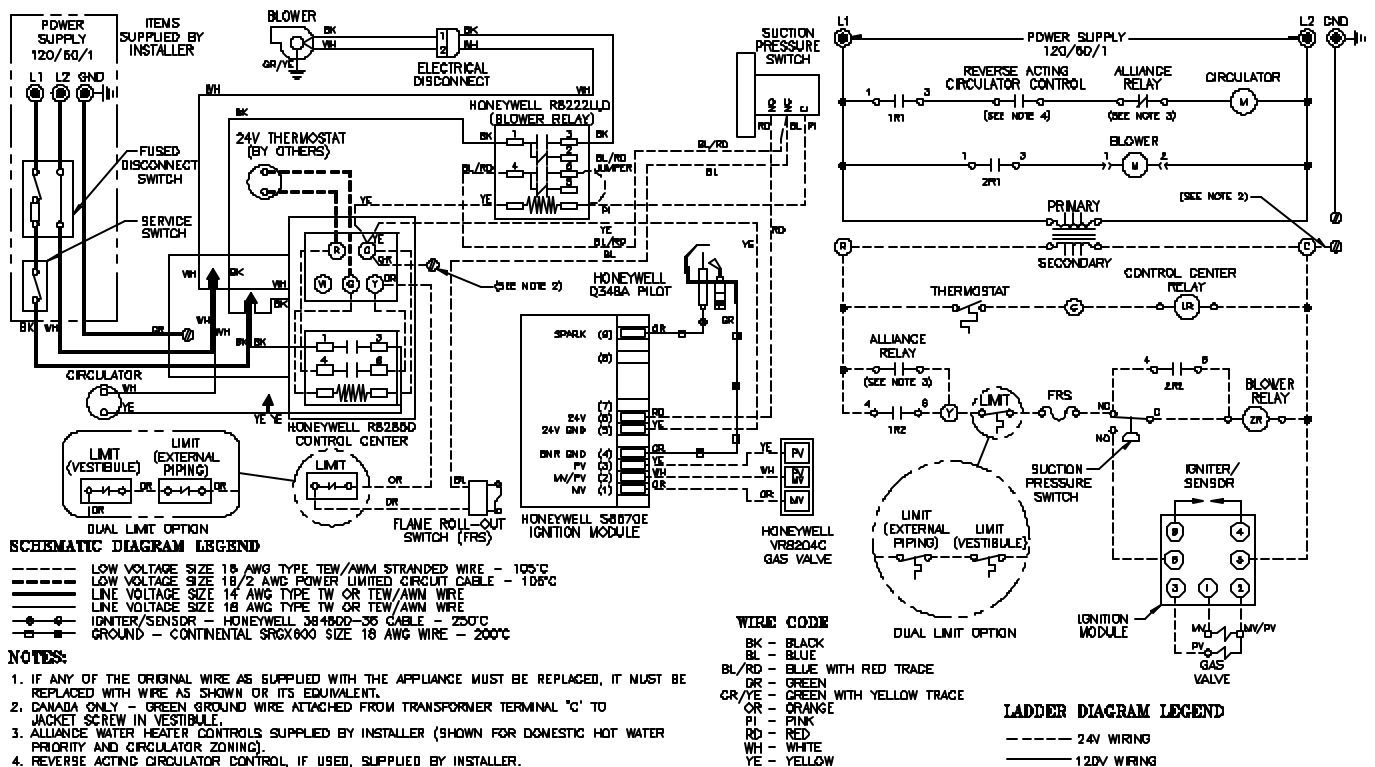

Figure 10: Wiring Diagram
- C. Wire thermostat.** Provide Class II circuit between thermostat and boiler. Run wires through grommet in Jacket Left Side Panel. Set thermostat heat anticipator to 0.6 amps. See Figure 10.
- D. Wire boiler.** Boiler is rated for 120 VAC, 60 hertz, less than 12 amperes. Provide individual branch circuit with fused disconnect. Connect to black and white wires and green ground screw. See Figure 10.
- E. Alliance water heater (if used).** See Figure 10. Also refer to Alliance *Installation, Operating and Service*